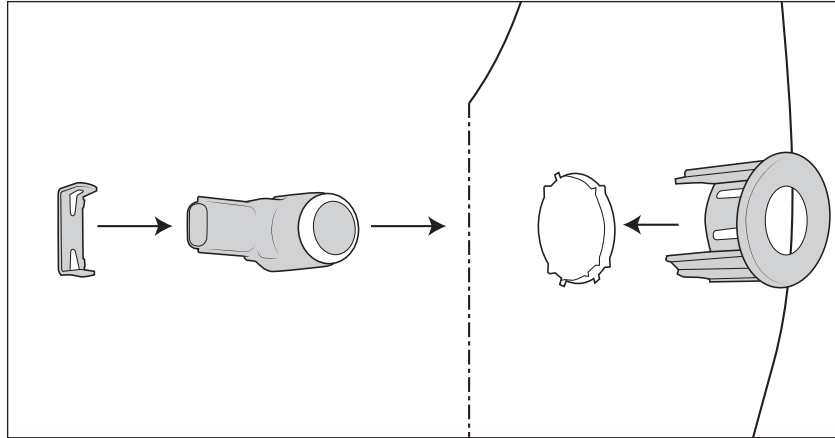

Figure 17
1. Clean bezel with alcohol then install appropriate bezel (IB to center section, OB to corners) into each bumper hole using black RTV between bezel and bumper (fig 17).